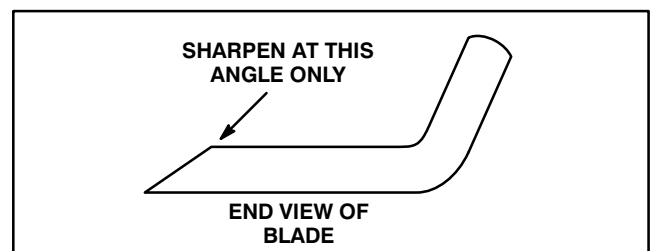

Figure 29
3. Examine cutting edges of all blades. Sharpen the cutting edges if they are dull or nicked. Sharpen only the top of the cutting edge and maintain the original cutting angle to make sure of sharpness (Fig. 29). The blade will remain balanced if same amount of metal is removed from both cutting edges.